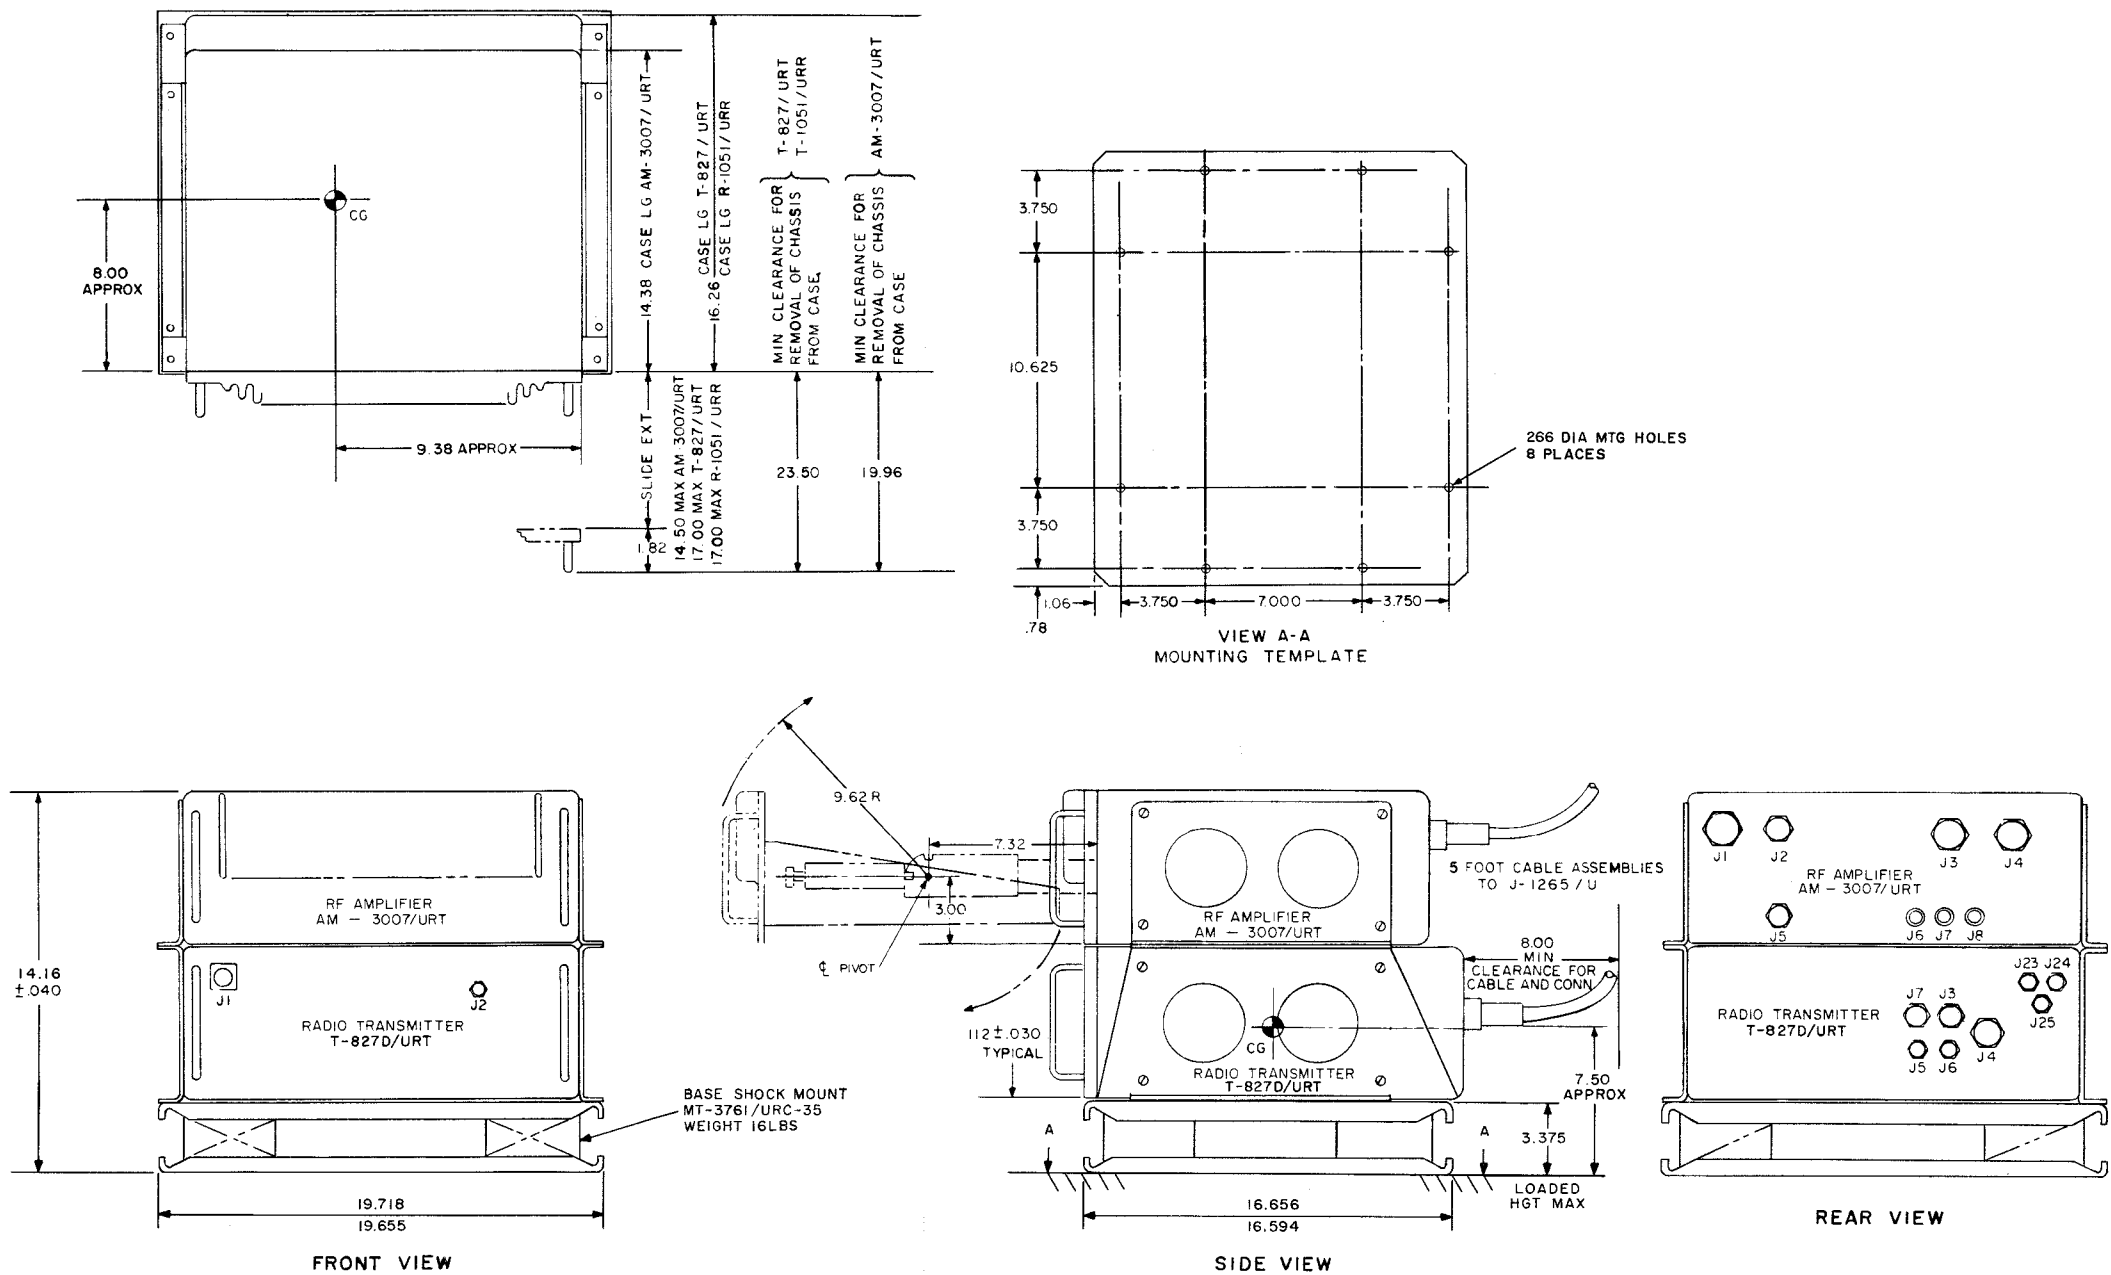

Figure 7-3. Radio Transmitter
- (1) MOUNTING OF UNITS. - Units of the AN/URT-24 are stacked and secured together in the order shown in figure 7-3. Mounting brackets and hardware are supplied with each unit. These brackets facilitate stacking of the units. To install the AN/URT-24 system, proceed as follows:
(c) Attach mounting brackets to sides of each unit as shown in figure 7-3 using hardware supplied.
(d) Using hardware provided, bolt units together in order shown in figure 7-3. Bolt T-827D/URT to shock mount.
(c) Place units in rack in order shown in figure 7-3 and bolt bracket to front of rack. Use of installed rack shelves or base plates is recommended in rack installations.